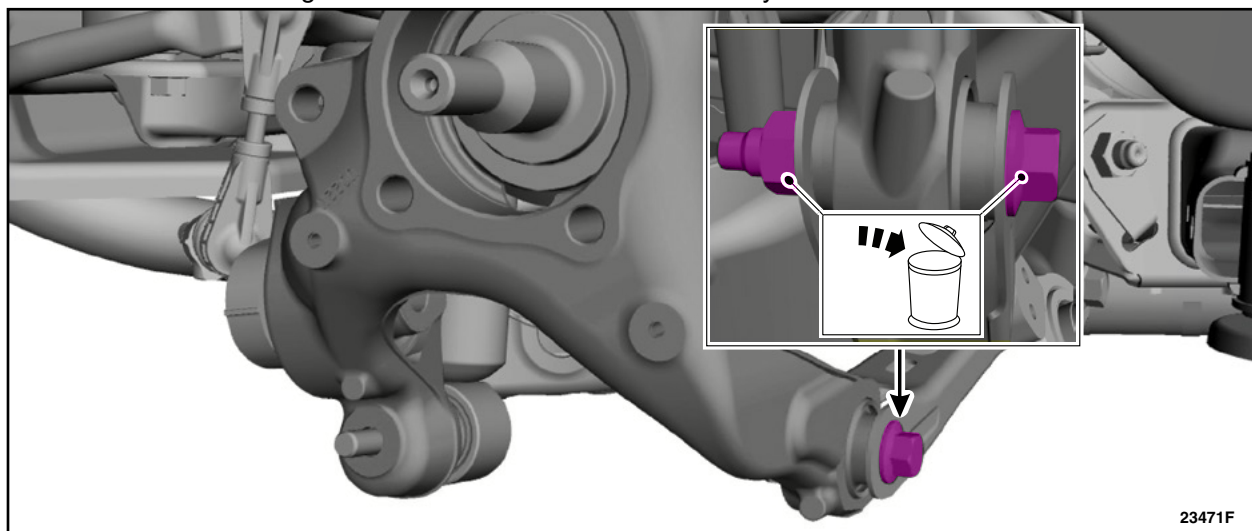

FIGURE 7
12. Remove and discard the LH rear toe link-to-wheel knuckle bolt and nut. See Figure 7.